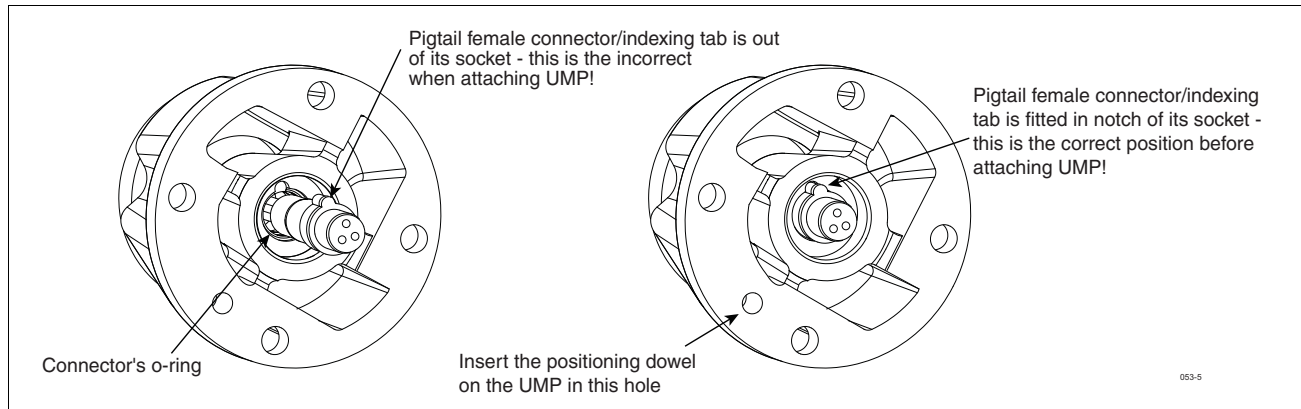

Figure 4. Verifying Pigtail's Female Connector Is Seated Properly In Discharge Head
8. Pull the pigtail connector in the discharge head out far enough to see the o-ring in the sidewall of its socket (see Figure 4). Remove the connector's o-ring from the connector's socket and discard it. Get a 0.551" ID x 0.070" wide o-ring from the hardware/seal kit and lubricate it with petroleum jelly. Slide the new o-ring over the
10. Align the UMP positioning dowel so it inserts in the proper hole in the discharge head (see Figure 4) and push the UMP into position using hand force only. The UMP should be snug against the discharge head prior to installing the UMP retaining bolts.